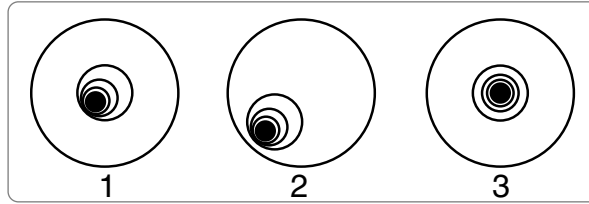

Fig. 33a: Defocused star images. Misaligned (1, 2), Aligned
- b. While looking at the defocused star image, notice which direction the darker shadow is offset in the ring of light or notice which part of the ring is the thinnest (**1, Fig. 33a**). Place your index finger in front of the telescope so that it touches one of the collimation set screws. You will see the shadow of your finger in the ring of light. Move your finger around the edge of the black plastic secondary mirror support until you see the shadow of the finger crossing the thinnest part of the ring of light. At this point, look at the front of the telescope where your finger is aiming. It will either be pointing directly at a set screw, or it will be between two set screws aiming at the set screw on the far side of the black plastic secondary mirror support. This is the set screw that you will adjust.
- c. Using the Autostar's Arrow keys at the slowest slew speed, move the defocused image to the edge of the eyepiece field of view (**2, Fig. 33a**), in the same direction as the darker shadow is offset in the ring of light.
- f. When you bring the image to center (**3, Fig. 33a**), carefully examine the evenness of the ring of light (concentricity). If you find that the dark center is still off in the same direction, continue to make the adjustment in the original turning direction. If it is now off in the opposite direction, you have turned too far and you need to turn in the opposite direction. Always double check the image in the center of the field of the eyepiece.